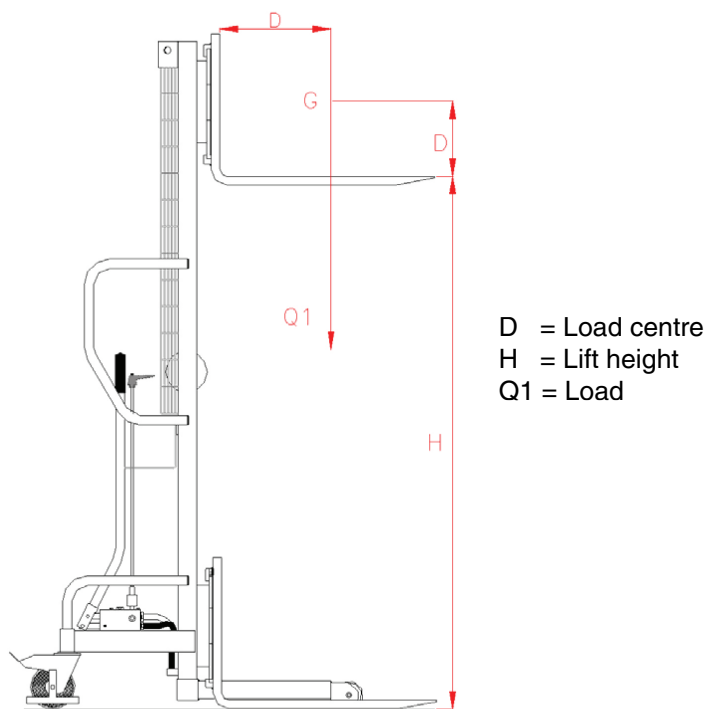

Figure 4 Renishaw silo lift load centre
- Lift height: Height “H” from the ground to the upper face of the fork arm blades or load platform (Figure 4).
- Load centre: Distance “D” horizontally to the front face of the fork arm shank and vertically “D” to the upper face of the fork arm blades (Figure 4).